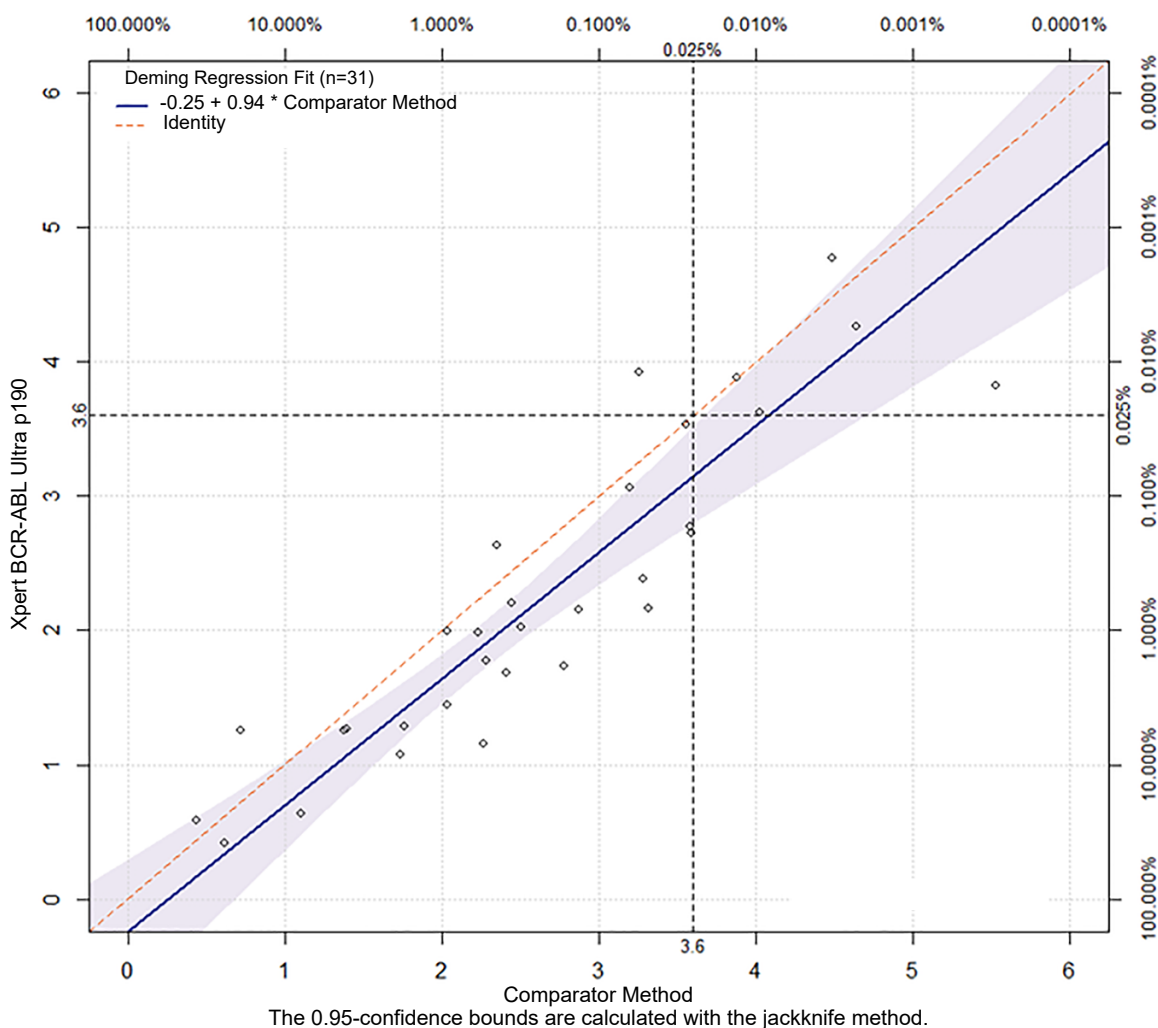

Figure 10. Deming Regression for LR
The Deming regression analysis for percent ratio (PR) results show good correlation between the Xpert BCR-ABL Ultra p190 and comparator method measurements in terms of PR measurement. The intercept was 0.01 and slope was 1.08; both met the acceptance criteria. The Pearson's r was 0.814. Log Reduction (LR) was conducted to normalize the PR data distribution. Deming regression analysis using LR measurements were performed and presented in Figure 10 below.
Figure 10 shows high correlation between Xpert BCR-ABL Ultra p190 and comparator method tests for LR measurements. The Deming regression has a slope of 0.94 and an intercept of -0.25. Deming Regression results for the LR values also met the acceptance criteria for the intercept and slope. The overall correlation (Pearson) $r=0.904$ was high.